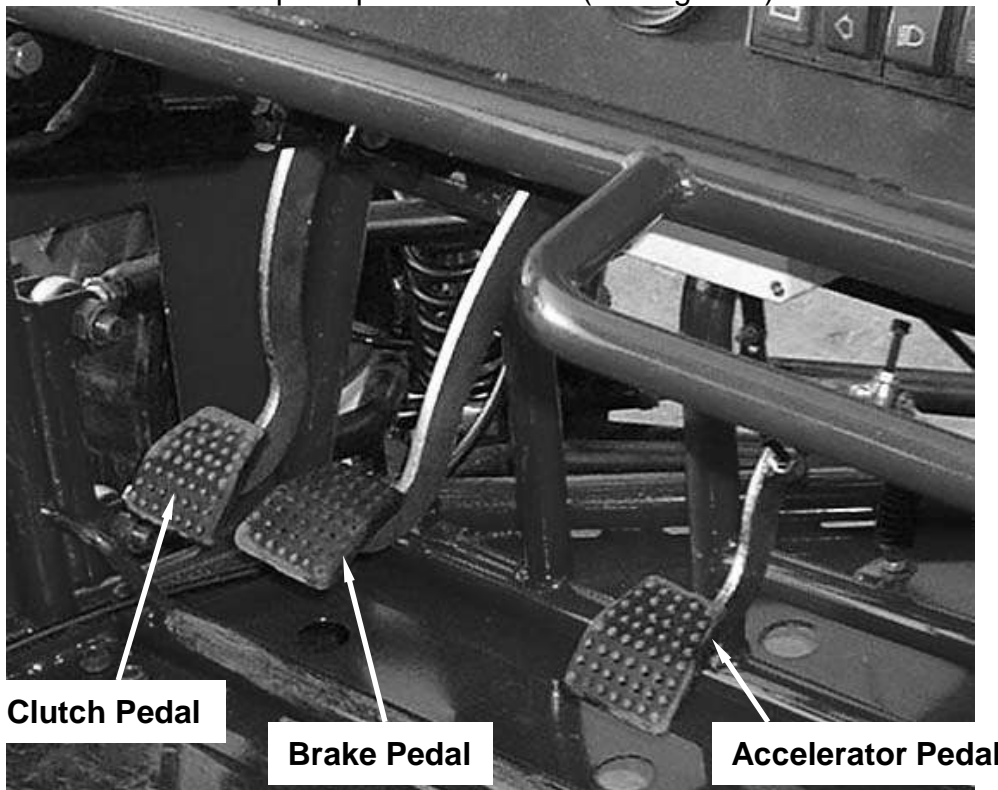

FIGURE 1
1) **Accelerator Pedal:** Changes engine rpm and vehicle ground speed. Press down on the accelerator pedal with your foot to increase speed and let up on the pedal to decrease speed. (See figure 1)
2) **Brake Pedal:** Applying pressure to the brake pedal instead of the accelerator pedal with your foot will slow down and/or stop the vehicle. Riding or resting your foot on the pedal unnecessary will wear the brakes out prematurely. (See figure 1)
3) **Clutch Pedal:** Applying pressure to the clutch pedal with your left foot will make gearbox to declutch and let up the pedal to clutch. (See figure 1)